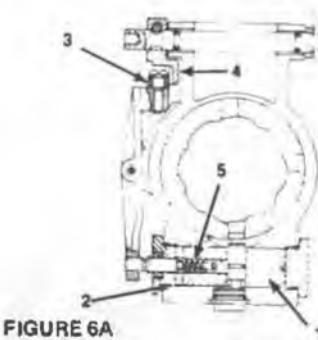

FIGURE 6A
To help understand the following description of mechanical/light load advance operation, refer to sub figures 6A-6F in Fig. 2-6.
Sub-figure 6A shows the cam ring and advance mechanism in the retard position as it would be at cranking. The advance piston (1) is moved toward the power plug side and the servo advance valve (2) is in the position shown. With the throttle closed, the roll (3) rides on the low portion of the face cam (4) and no change is made in the reference point of the mechanical/light load advance spring (5).